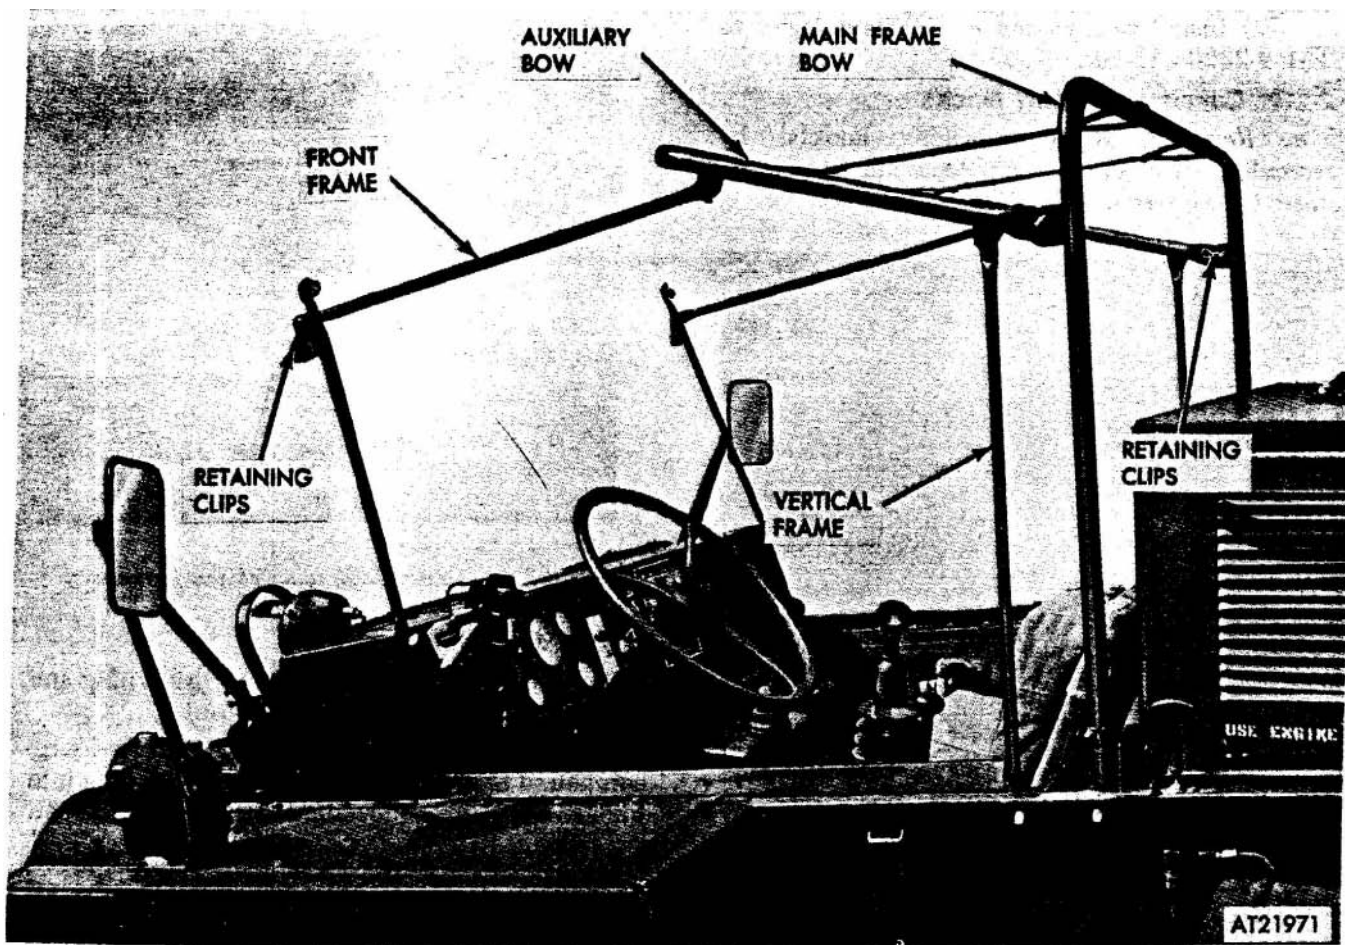

Figure 2-319. Tractor canopy bow, *disassembly and assembly*.
(1) Remove retaining clips from clevis pins securing front frame assemblies to auxiliary bow. Remove front frame (fig 2-319).
(2) Remove retaining clips from clevis pins securing vertical frame supports to auxiliary bow. Remove frame supports.
(3) Remove retaining clips from clevis pins securing auxiliary bow to main frame bow. Slide bow from web straps.
(4) Slide both web straps from main frame bow.
(1) Slide both web straps on main frame bow (fig 2-319).
(2) Insert auxiliary bow through both web straps and secure to main frame bow with retaining clips.
(3) Position vertical frame supports to auxiliary bow and secure with retaining clips.
(4) Position front frame assemblies to auxiliary bow and secure with retaining clips.